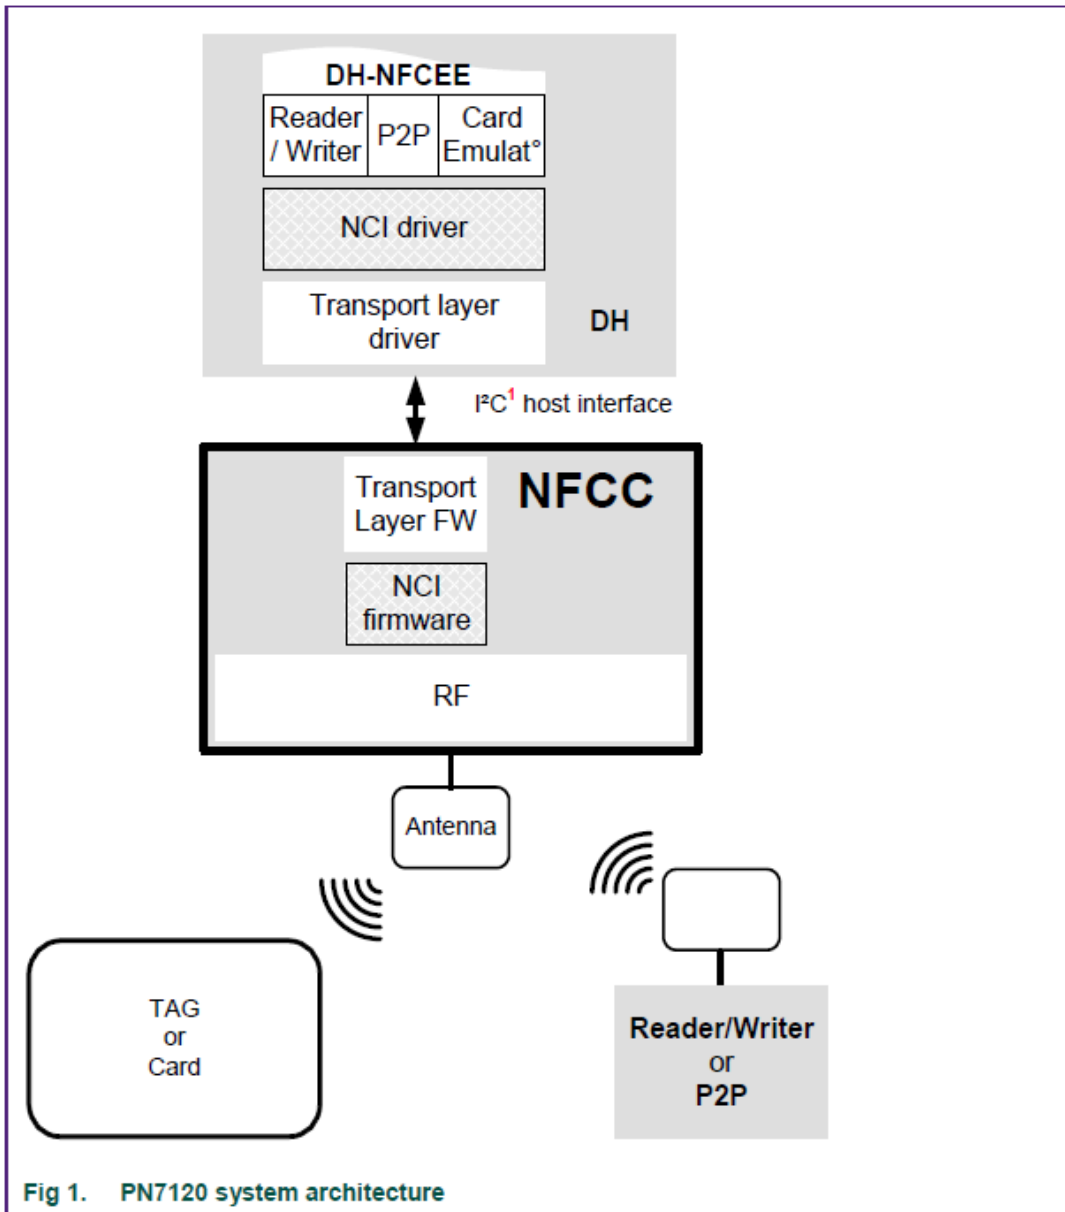

Fig 1. PN7120 system architecture
The PN7120 is an NFC Controller, which is briefly described in Fig 1:
- The top part describes the Device Host (DH) architecture with Higher Layer Driver (i.e Android stack) hosting the different kind of applications (Reader/Writer, Peer to Peer, Card Emulation in the DH-NFCEE), the NCI driver & the transport layer driver.
- The PN7120 is the NFCC in the Fig 1. It is connected to the DH through a physical interface which is an I2C. The PN7120 firmware supports the NCI specification. The firmware also provides support for additional extensions that are not contained in the NCI specification. These additional extensions are specific to the PN7120 chip and are proprietary to NXP.